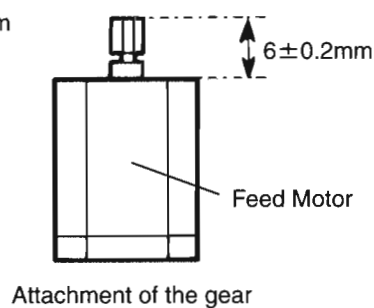

Fig.14
2. Figure 14 shows how to attach the gear to the feed motor.